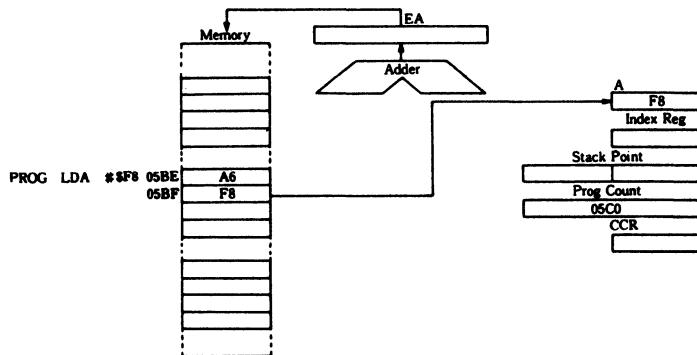

Figure 2-22 Immediate Addressing Example
(1) Immediate
Refer to Figure 2-22. The immediate addressing mode accesses constants which do not change during program execution. Such instructions are two bytes long. The effective address (EA) is the PC and the operand is fetched from the byte following the opcode.
(2) Direct